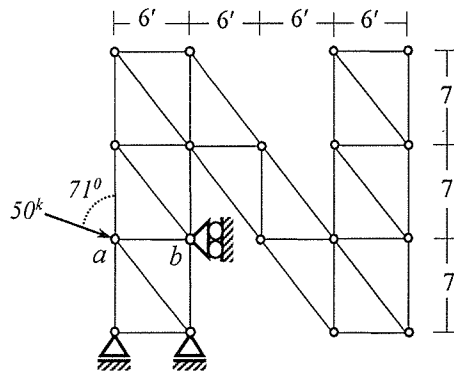

Fig.2
- Identify zero-force members of the 2D truss loaded as shown in Fig.2. Determine the displacements of joints *a* and *b*.